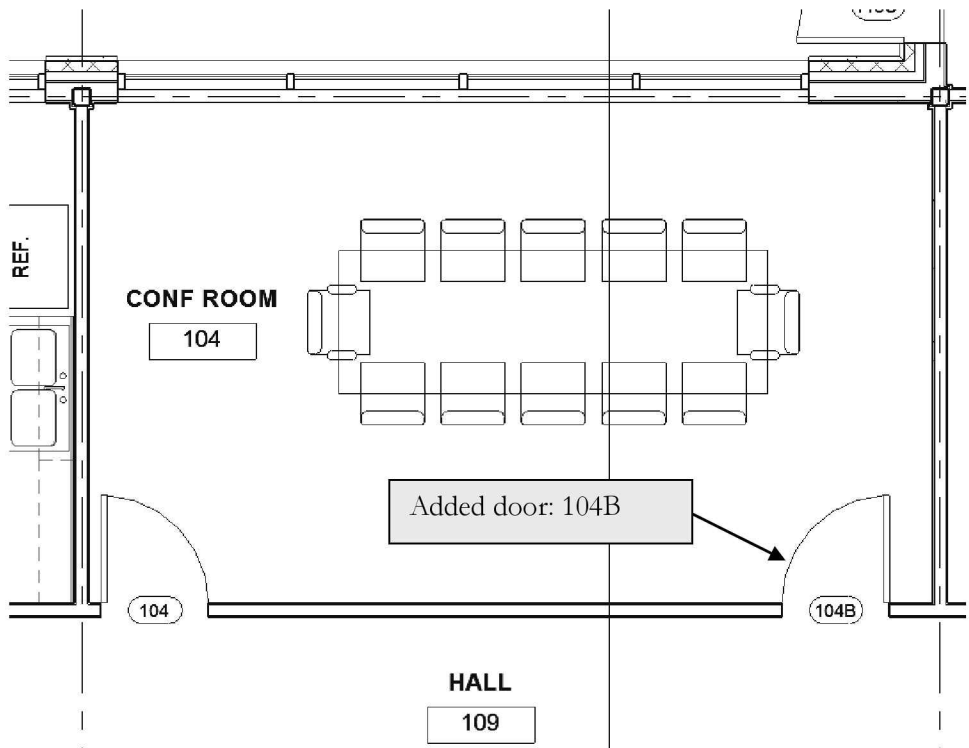

FIGURE 12-2.5 Level 1 – door added
- 11. Add a door as shown in **Figure 12-2.5**; number the door **104B**.